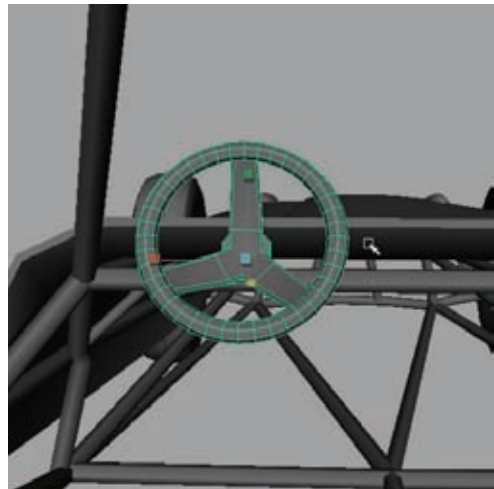

Figure 4.32
9. You'll probably notice that they all intersect at their base. Go ahead and create a small beveled cube to hide their intersection at their base. Once you have all the details you like, group them all together (Ctrl+G), reposition, and rescale the group to fit the buggy (Figure 4.32).